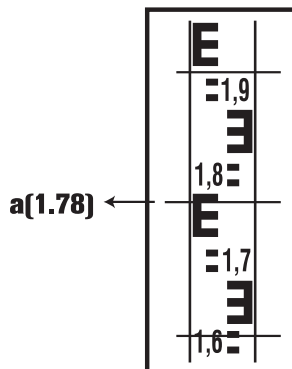

Fig.3
2. Erect the leveling rod to the point of A vertically, focus the instrument against the leveling rod and adjust the crosshair to match the center of leveling rod, record the height value a of the leveling rod at the centre line of the crosshair. (see fig.3)